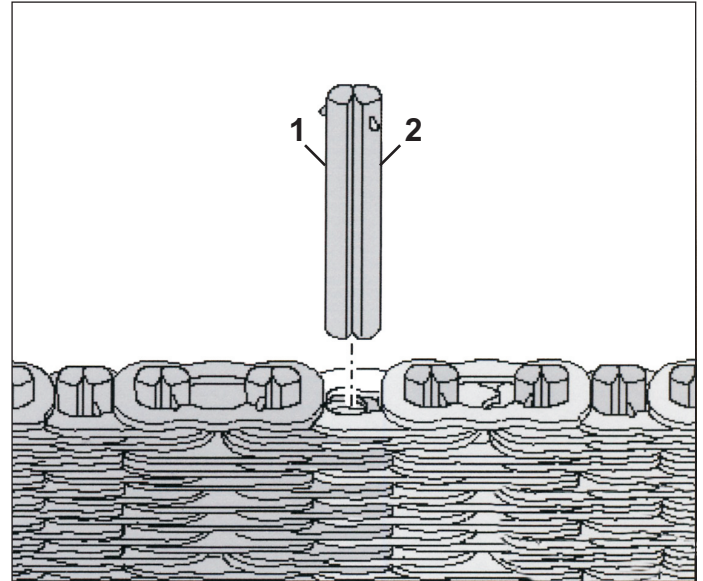

Figure 14
4. Insert the two asymmetrical pin halves (1 & 2) into the chain with the end that had the weld spots removed going in first and with the intact weld spots at the top (figure 14).